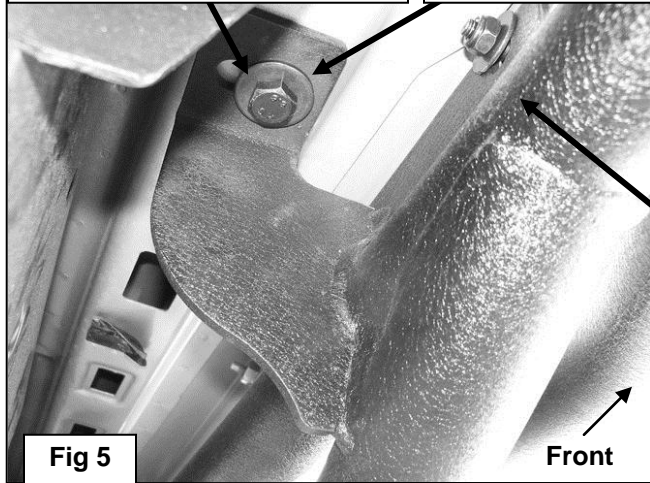

Fig 5
Bolt each top tab on the Side Armor to the Nut Plate with (1) 10mm x 35mm Hex Bolt, (1) 10mm Lock Washer and (1) 10mm Flat Washer, (Figure 5).
3. Line up the (2) vertical mounting plates on the Side Armor with the (4) factory holes in the pinch weld. Bolt the plates to the **back** of the pinch weld using the included (4) 6mm x 25mm Hex Bolts, (4) 6mm x 18mm Small Flat Washers, (against pinch weld), (4) 6mm x 22mm OD Large Flat Washers, (inside against the bracket) and (4) 6mm Nylon Lock Nuts, (Figures 5 & 6). Leave loose at this time.